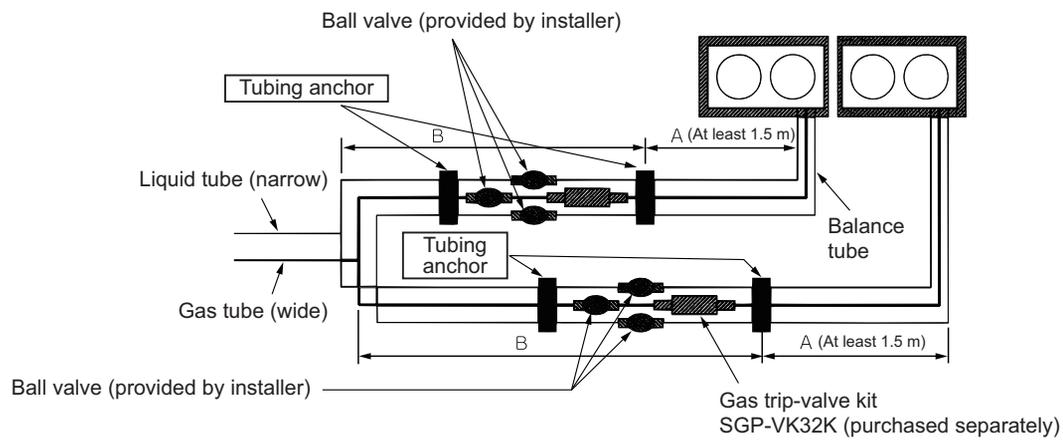

Fig. 21
(1) When Using Singular Frames
- When anchoring the refrigerant tubing, be sure to set the tubing anchor for each outdoor unit at least 1.5 m away from the respective unit (as shown in Fig. 21).